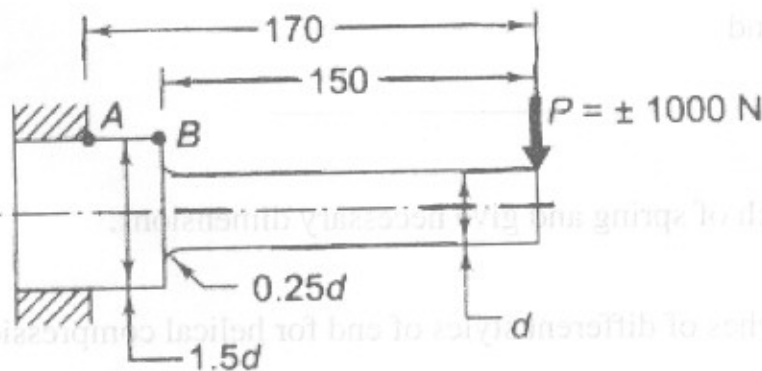

Figure 4
9. a) A cantilever beam made of cold drawn steel is subjected to a completely reversed load of 1000 N as shown in figure 4 ($s_{ut} = 540 \text{ N/mm}^2$). The notch sensitivity factor q at the fillet can be taken as 0.85 and the expected reliability is 90%. Determine the diameter 'd' of the beam for a life of 10000 cycles. 12